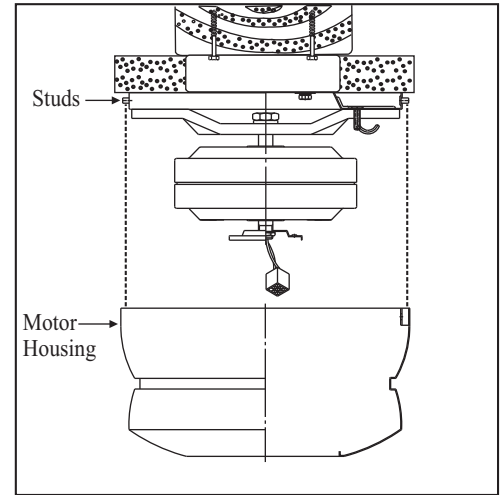

Figure 8
2. Raise the motor housing up against the mounting bracket, the four supports inside the housing should be placed against the four studs on mounting bracket, twist the housing clockwise until snug (Fig. 8).